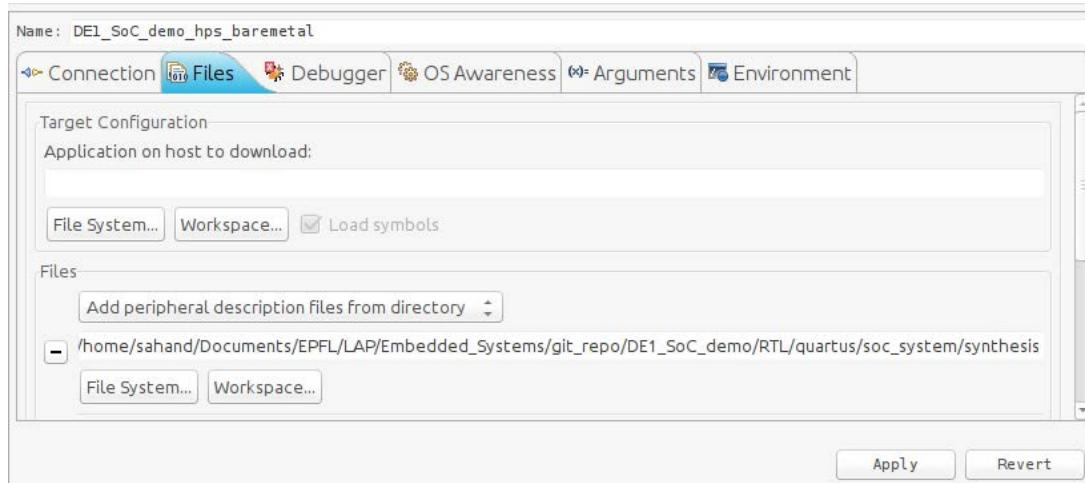

Figure 8-31. Debug Configuration "Files" Tab
- In 8.3.3.2, we configured our HPS to use some FPGA peripherals. We can instruct the debugger about this so it can show more detailed information when debugging. To do this, set the combobox to “Add peripheral description files from directory” and set it to the “DE1_SoC_demo/RTL/quartus/soc_system/synthesis” directory, as shown in Figure 8-31. This directory contains a file called “soc_system_hps_0_hps.svd” which has information on all of the HPS’ peripherals which are in the FPGA fabric.